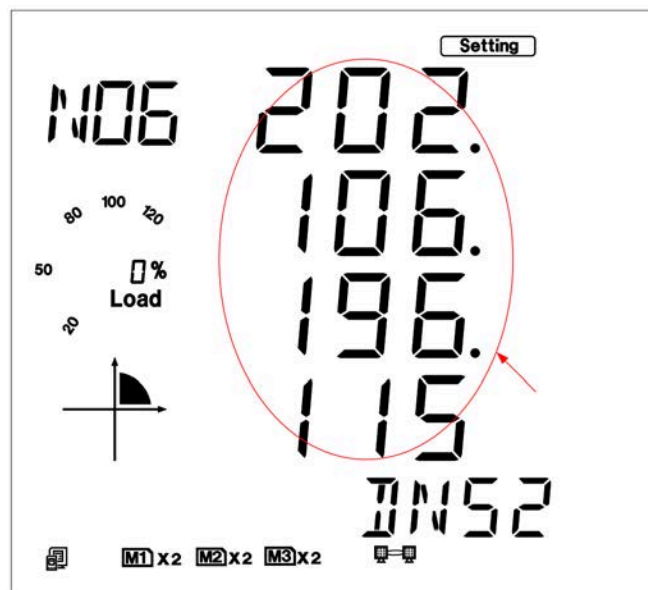

Fig 5-34
8. Set DNS Secondary Server in the sixth setting page, such as 202.106.196.115. Press the "V/A" key to go to the setting page. Users may set the parameters pointed out in Fig 5-34. The cursor starts at the first digit. After setting the DNS Secondary Server, press the "V/A" key to accept. Press the "P" key to go to the seventh setting page for the Modbus-TCP port.